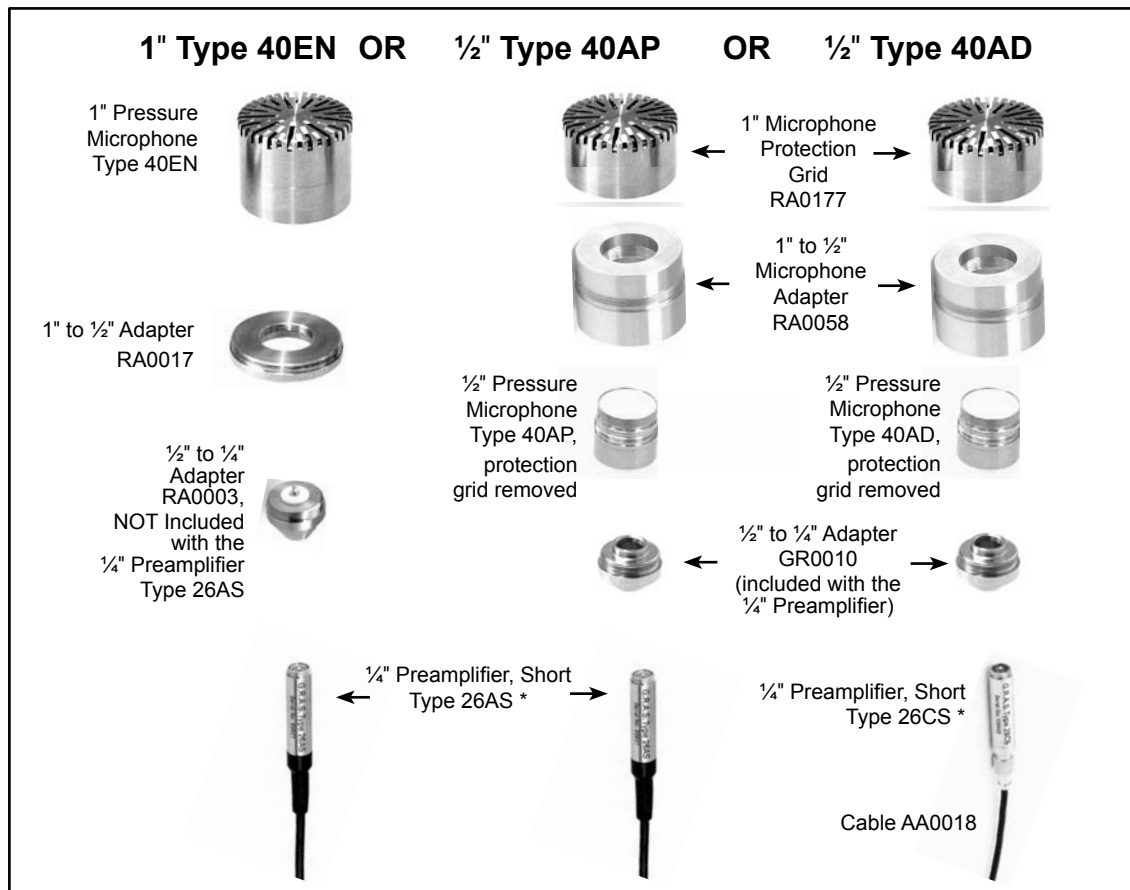

Fig. 4.1 Assembly options (exploded view)
- The parts shown in Fig. 4.1 (choose one of the three assembly options)
Fig. 4.1 displays three options for the microphone/preamplifier assembly required for the measurements.